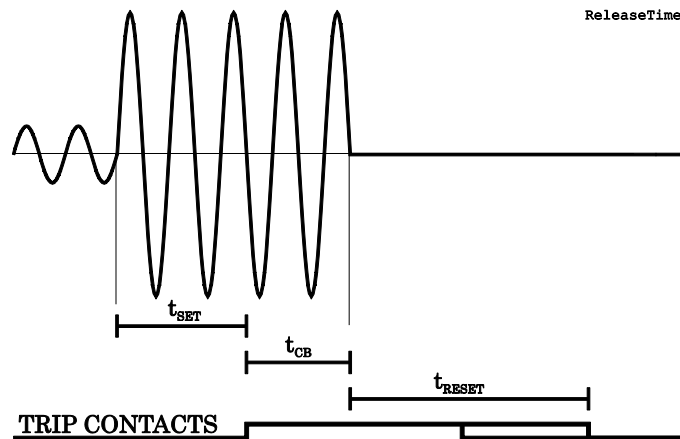

Figure 5.3-2 Reset time is the time it takes the trip or start relay contacts to open after the fault has been cleared.
Figure 5.3-2 shows an example of reset time i.e. release delay, when the relay is clearing an overcurrent fault. When the relay's trip contacts are closed the circuit breaker (CB) starts to open. After the CB contacts are open the fault current will still flow through an arc between the opened contacts. The current is finally cut off when the arc extinguishes at the next zero crossing of the current. This is the start moment of the reset delay. After the reset delay the trip contacts and start contact are opened. The reset time varies from fault to fault depending on the fault size. After a big fault the time is longer. The reset time also depends on the specific protection stage. The maximum reset time for each stage is specified in chapter 12.3. For most stages it is less than 95 ms.